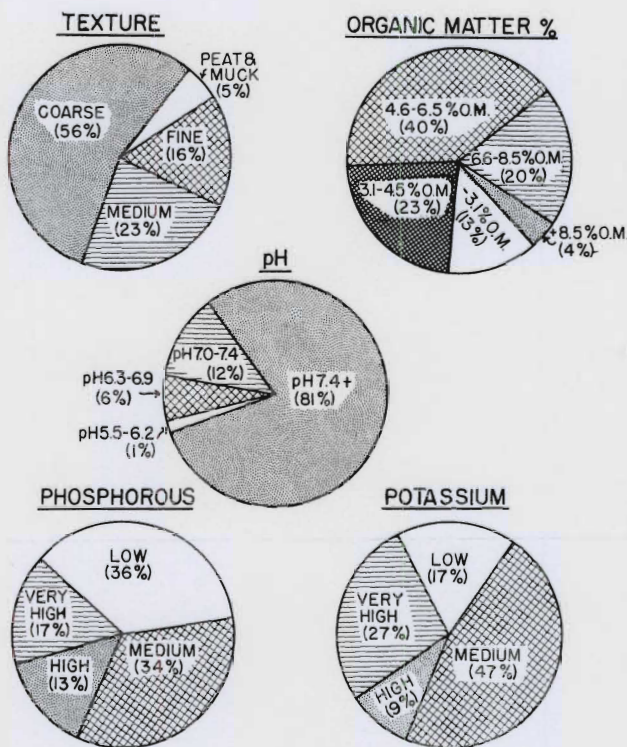
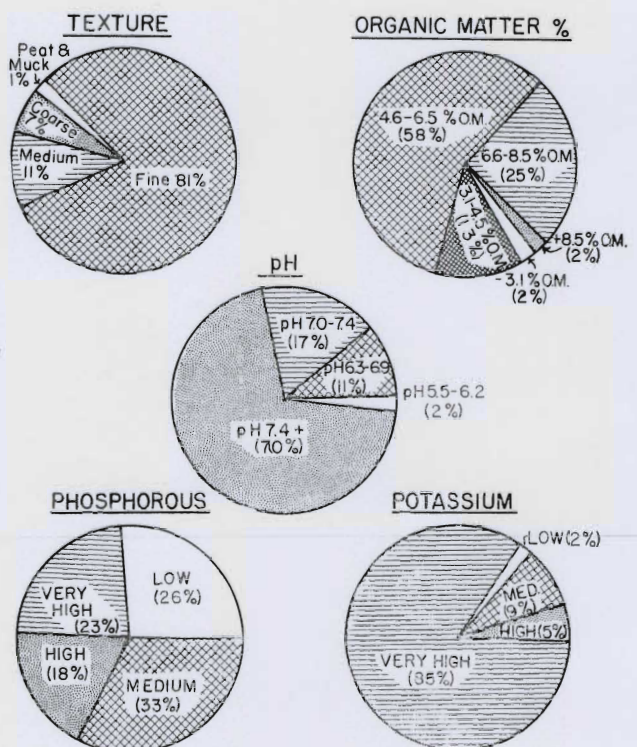

Fig. 3. Here is a soil test summary of the Ulen-Sioux-Tanberg soil association with the percent of samples tested falling in each class.
Fig. 4. Here is a soil test summary of Fargo-Bearden soil association with the percent of samples tested falling in each class.
**Fertility**—Most of the soils in the Valley are very fertile. They can be classed among the best soils in the world. Even with this high native fertility, many of the soils now respond to the addition of plant nutrients. Soil tests have shown the general fertilizer needs as well as the general properties of the soils in the Valley. Soil test summaries for the Ulen-Sioux-Tanberg area (figure 3) and the Fargo-Bearden area (figure 4) reveal the properties of the soils quite well.